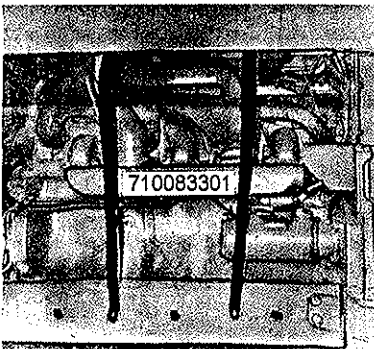

Figure 4
7. Bolt exhaust guard to hood using 1/4" x 1" bolts & nuts. To attach bottom use 3/8" x 1 1/2" hex head bolts, nut & washers. See Figure 4.